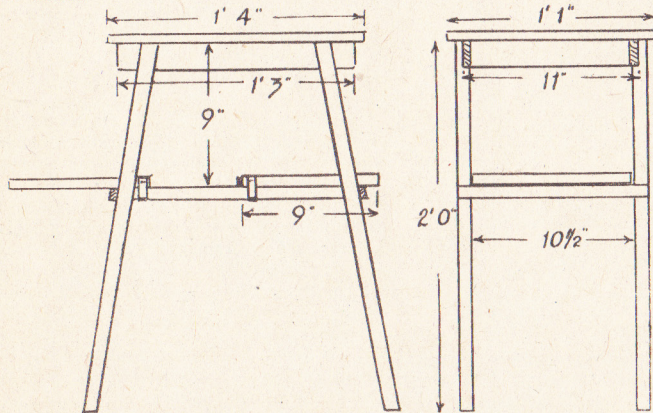

Fig. 1—Front and side views, showing measurements
Fig. 1 shows a front and side view of the article, which is quite easy to construct. Commence by making the underframe of the top. Cut the sides to length, and near each end chisel out grooves, $\frac{1}{4}$ in. deep, at the angle given at (A) in Fig. 2 for the legs. Cut the ends, and join these to the sides with a rebated joint, as at (B), the rebate cut into the sides being $\frac{1}{4}$ in. deep. Glue and nail these parts together.